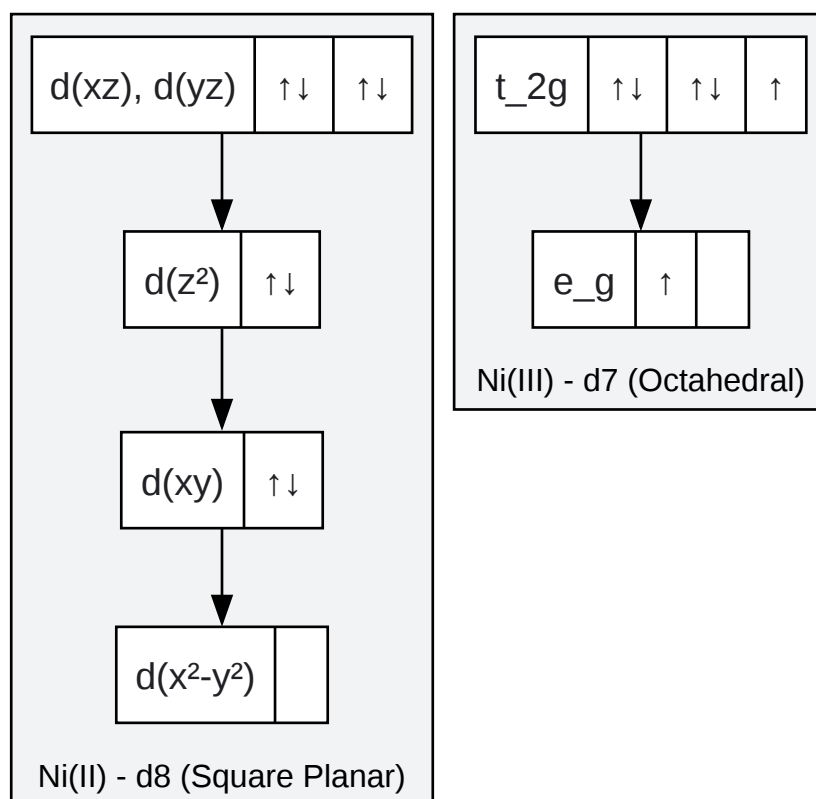

Figure 1. d-Orbital Splitting Diagrams
Caption: Figure 1. Generalized d-orbital splitting for low-spin Ni(II) and Ni(III).